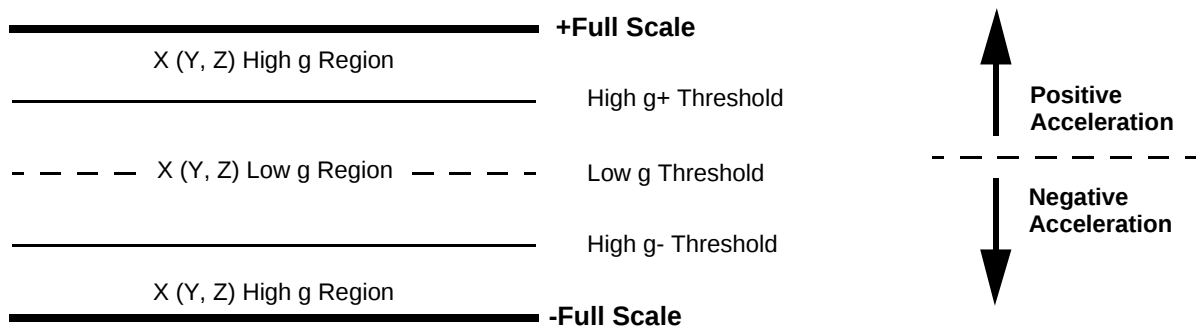

Figure 5. Freefall Condition (Illustration)
- For Motion detection the condition is > Threshold (Figure 5)
- For Freefall the condition is < Threshold (Figure 5)